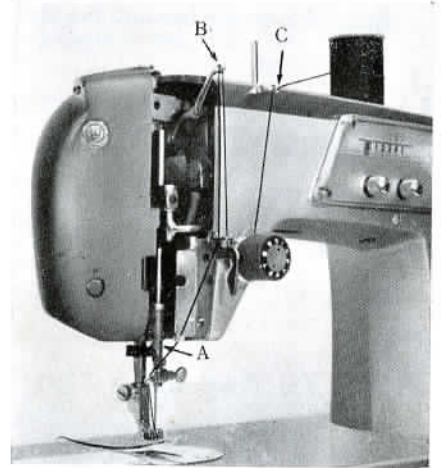

Fig. 12
1. Turn the hand wheel toward you to raise the needle bar (A Fig. 12) to its highest position with the thread take-up lever (B Fig. 12) at the highest point.
3. Lead the thread through the upper arm thread guide (C Fig. 12)